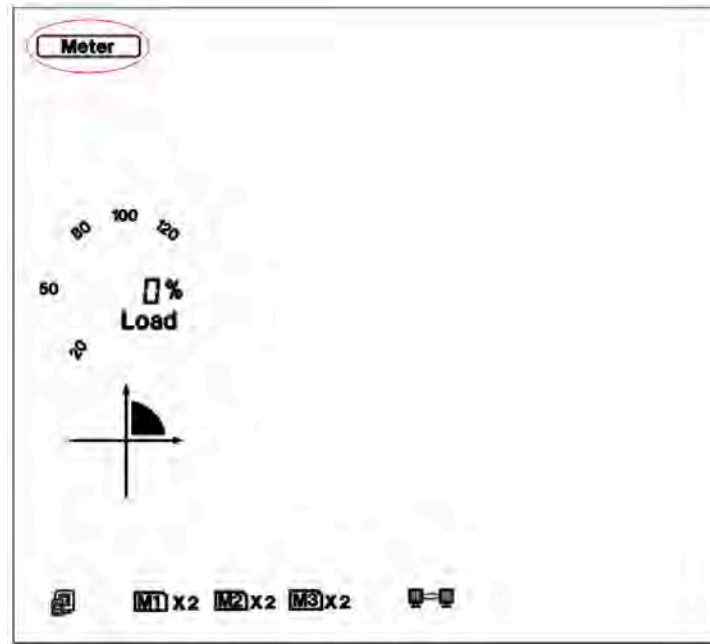

Fig 5-78
d). Set IP Address in the second setting page, such as 192.168.1.100 as shown below. Press the "V/A" key to go to the IP setting page. Users may set the parameters in the area pointed out in Fig 5-78. The cursor starts at the first digit. After setting the IP address press the "V/A" key to accept. Press the "P" key again to go to the third setting page for Subnet Mask.